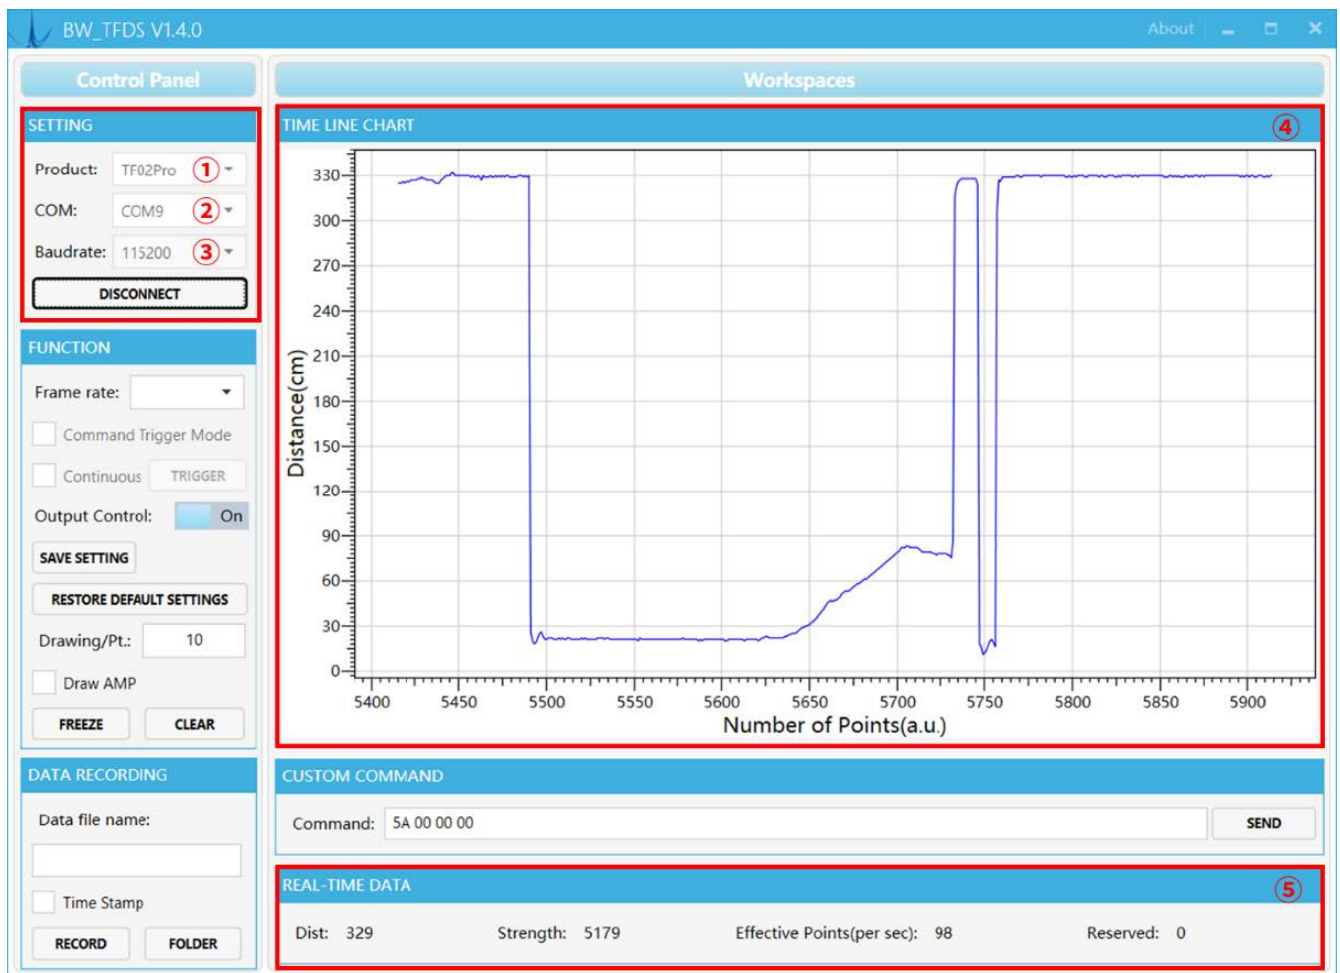

Figure 5-2 BW_TFDS software interface and display
Run BW_TFDS software, select “① TF02-Pro” and select automatically recognized communication port (here it is “② COM9”), choose the right baud rate (here it is “③ 115200”), as shown in Figure 5-2.